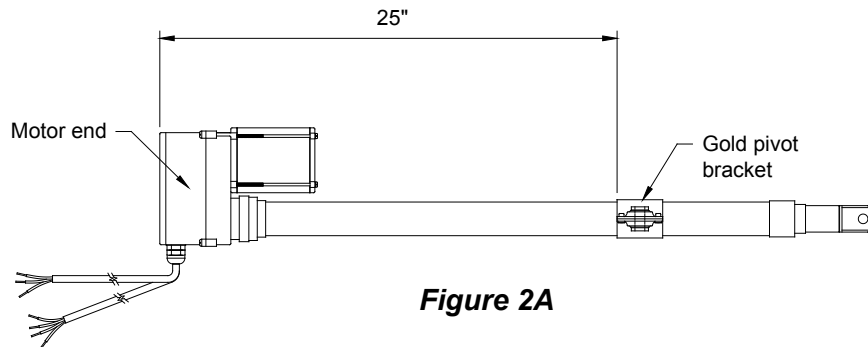

Figure 2A
Place gold pivot bracket on shaft of actuator with pivot portion perpendicular to the motor. The bracket should be 25" from the bottom of the motor. See **Figure 2A** & **2B**. Tighten (2) 3/8" x 1.25 gold bolts, and to secure bracket on actuator shaft.